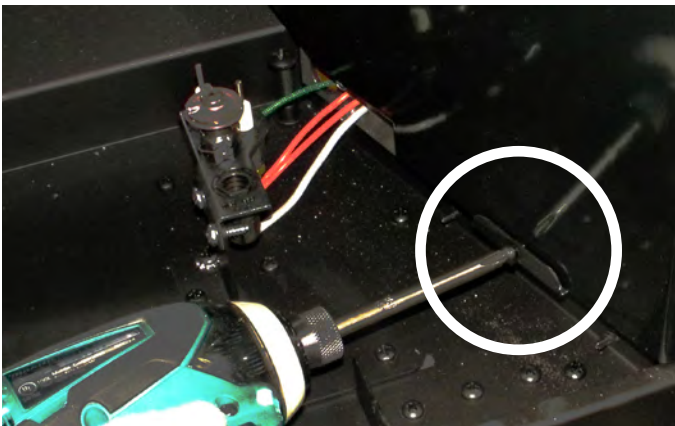

Figure 13 Sec.9
3). The porcelain panel kit comes with replacement panel retainers. Use if necessary. See **figure 13** for panel retainer location.